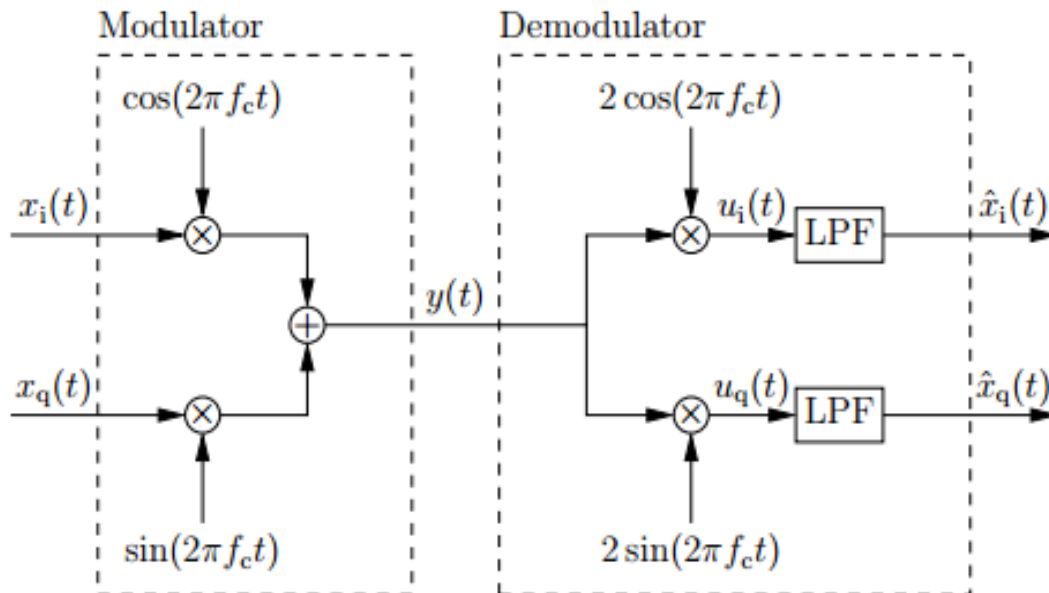
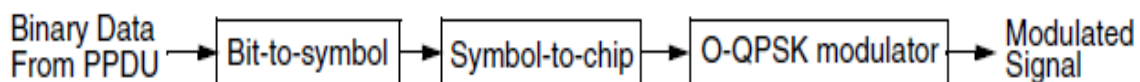

Figure 1. QAM signal processing.
Figure 2. Modulated signal generation.
- Task 1: By inspecting Figure 2 from the link provided, briefly comment on the hardware components of the USRP. From this figure, it can be seen that the signal is divided into I and Q phases and is then processed. Relate the signal processing to the QAM modulation/demodulation shown in Figure 1.